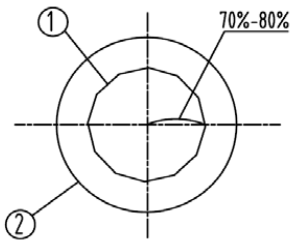
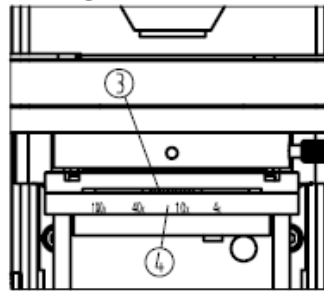

Fig.15 Objective Aperture and Aperture Diaphragm
Fig. 16 Iris Diaphragm Setting
The diaphragm aperture ① (Fig. 15) of the condenser is set at 70-80% of objective aperture ② (Fig. 15) for best result. You can observe this by removing the eyepiece and viewing through eyepiece tube. Slide the Iris setting lever ③ (Fig.16) to match the power of the objective in use. The Iris is graduated ④ ( Fig.16) with 4/10/40/100X & Ph (phase)
- Slide the Iris setting lever ③ (Fig.16) to PH position. Bring the matching annulus into the light path and proceed with the examination of your sample. Remember to change the annulus position when selecting another phase objective.